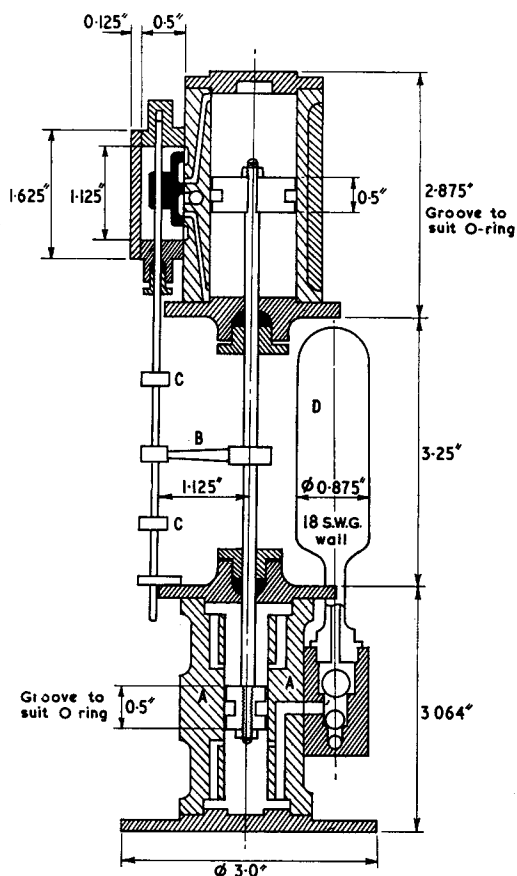
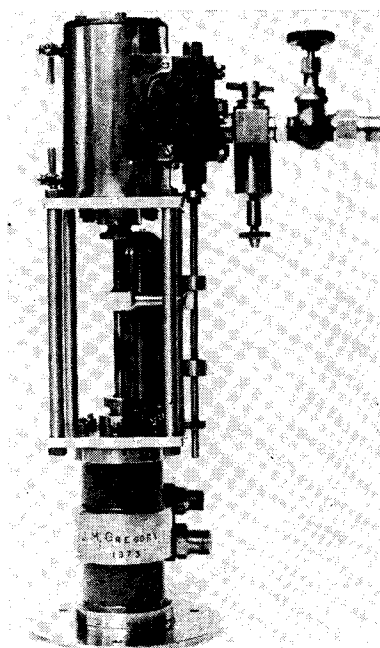

Fig. 1. SECTION OF COMPLETE PUMP
Fig. 2. The completed pump.
Fig. 1 shows a section of the author's model, and fig. 2 a photograph of the completed pump. The key to its operation lies at the pump end. The steam valve is a common slide valve operated by a tappet (B) on the piston/pump rod. The water pump is a double acting force pump with a difference. As the pump plunger nears the end of its stroke, it uncovers ports A-A in the barrel wall, which put both sides of the plunger
Construction of the pump is straightforward. It is nearly all brass or stainless steel to minimise corrosion when left attached to the boiler. Since, short of dismantling the pipe work, it is difficult to drain the pump effectively, the steam cylinder is fitted with drain cocks and its own displacement lubricator. Fig. 1 shows the general arrangement with the pump cylinder rotated by 90 deg. relative to the engine as built, to simplify the drawing. The steam and pump cylinders are united by four 0.25 in. dia. pillars 3.25 in. between shoulders which locate on the cylinder ends.